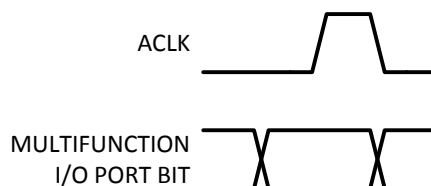

Figure 5. I/O Port Data Write Timing
**Caution:** When writing data into the control registers via the multi-function I/O port, **ACLK** must be toggled to register the data as shown in Figure 5. It is not necessary to toggle **ACLK** when reading data from the multi-function I/O port.